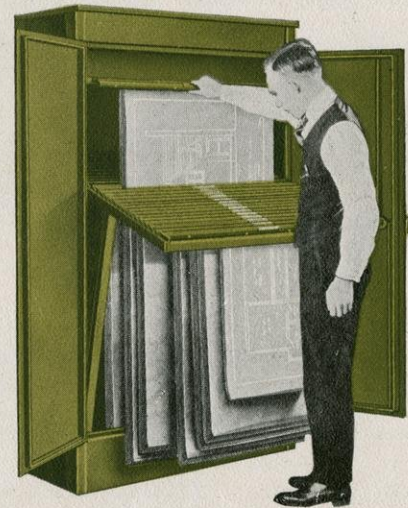
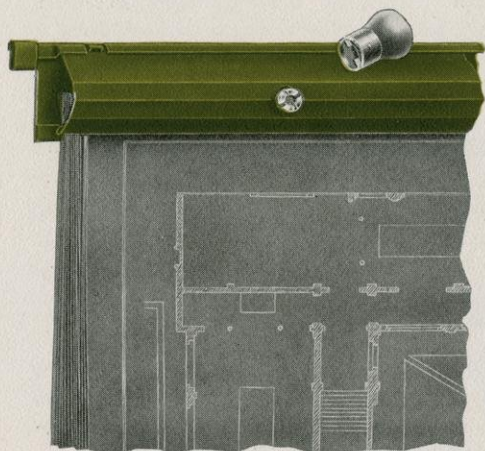

Fig. 1, Removing Plans
Fig. 2, Replacing Plans
**EASY REFERENCE :** When any particular drawing or set of plans is wanted for reference, the correct binder is located by the label holder and lifted from the rack as shown in Fig. 1. The binder is then laid on the table and the plans paged through until the correct one is found. If any plans are to be removed, the screws must be loosened.
The cuts, Fig. 1 and Fig. 2, show the manner of removing and replacing prints in the Hamilton-Calumet Vertical File. As each binder has a label holder to show the contents, it is an easy matter to find the plans desired, and misfiling is practically an impossibility.